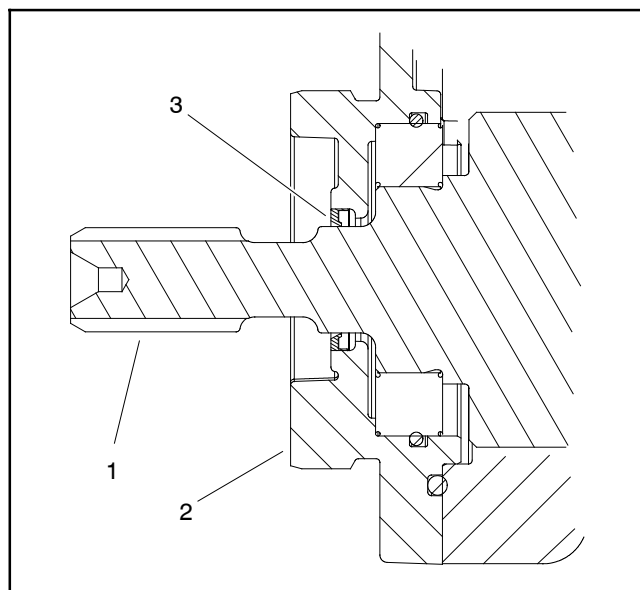

Figure 96
4. Use cutting reel motor rotor tool set (see Special Tools in this chapter) to carefully install rotor assembly (items 5, 6 and 7) into motor housing.
5. Lubricate new O-rings (items 14 and 3) with dielectric lubricant (see Special Tools in this chapter) and install O-rings to grooves in motor cover. Place wave washer (item 4) in cover.
6. Carefully slide motor cover onto rotor until it contacts motor housing. Secure cover with six (6) torx head screws.
8. Place wave washer (item 4) into housing bore for output gear bearing.
10. Slide output gear assembly (items 5, 11 and 7) into front of housing. Make sure that output gear teeth mesh with rotor gear.
11. Install shaft seal (item 13) into gearbox cover. Press shaft seal into front cover until it is flush with the cover surface. Shaft seal should have the seal lip toward the inside of the motor (Fig. 96).
12. Lubricate new O-rings (items 8 and 10) with dielectric lubricant (see Special Tools in this chapter) and install O-rings to grooves in gearbox cover.